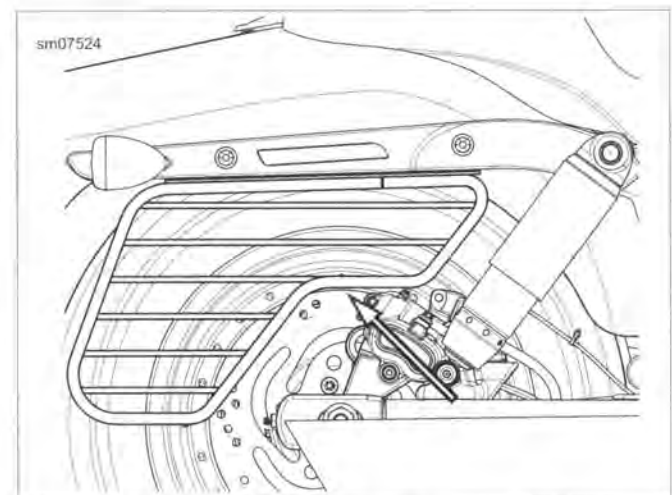

Figure 2-170. Saree Guard, Right Side
2. See Figure 2-170. Install rear mounting screw through saree guard into turn signal. Tighten to 12-18 ft-lbs (16.3-24.4 Nm).